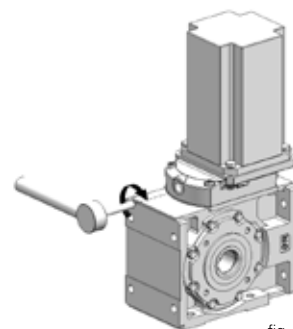

fig. 4
- lock the hub clamp screw by means of torque wrench until the tightening torque stated in the tightening torque table (at page 24) is reached (also during this operation it is advisable not to modify the hub clamp axial position, see fig. 4);